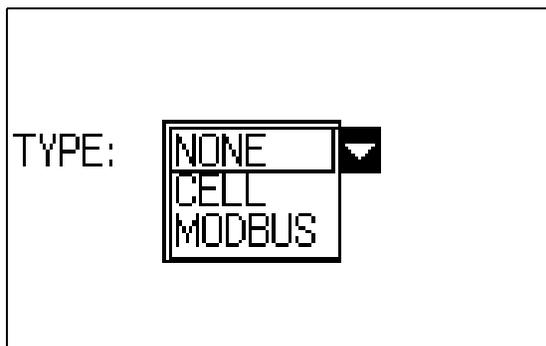

FIG. 17: Network Setup screen
1. On the Configuration screen (see FIG. 6), select NETWORK from the list of setup screens, and press Enter to display the Network Setup screen (see FIG. 17).